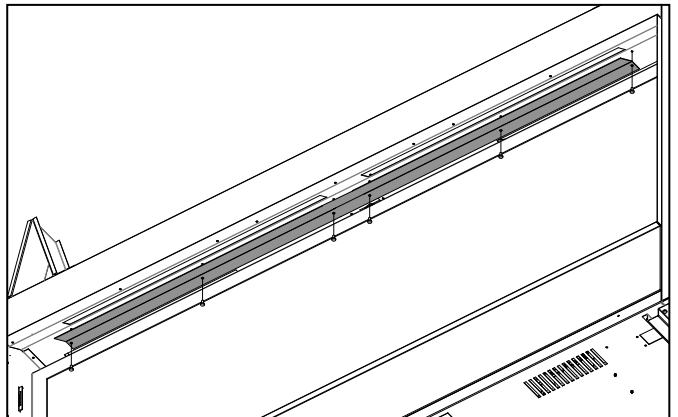

Figure 35: CSS Cover Removal
5. Rotate the CSS Flaps up so the prepunched holes align where the screws from the previous step were removed. Reattach the screws to hold the plates in place (see Figure 35).